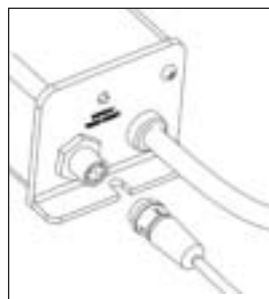
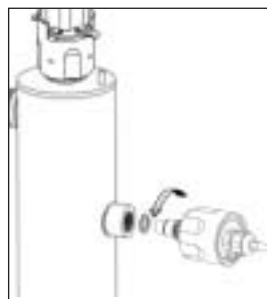

Figure 4B
Figure 4C
1. Before removing the sensor assembly, follow the steps as outlined in the "Quartz Sleeve Replacement And/Or Cleaning" section. The quartz sleeve should be cleaned at the same time as the UV sensor. Disconnect the UV sensor from the controller by disconnecting the sensor cable, turning the collar counter-clockwise (Figure 4B). To remove the sensor, grasp the body of the sensor and rotate counter-clockwise (Figure 4C) until the sensor is free of the threaded sensor port.
3. Ensure sensor lens is rinsed free of cleaning solution. Carefully re-assemble the sensor assembly with o-ring (Figure 4E) into the sensor boss. Screw the sensor into the boss and tighten to achieve a water-tight seal. **DO NOT OVERTIGHTEN.** Attach the sensor cable to the controller and return to service (Figure 4B).